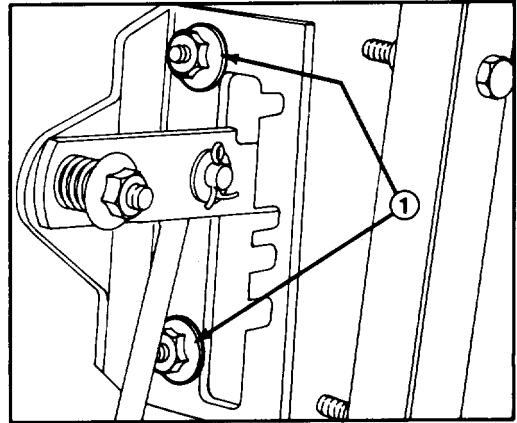

Figure 29
2. Loosen flange nuts securing selector plate to escutcheon plate. This allows selector plate to move freely for adjustment (Fig. 29).